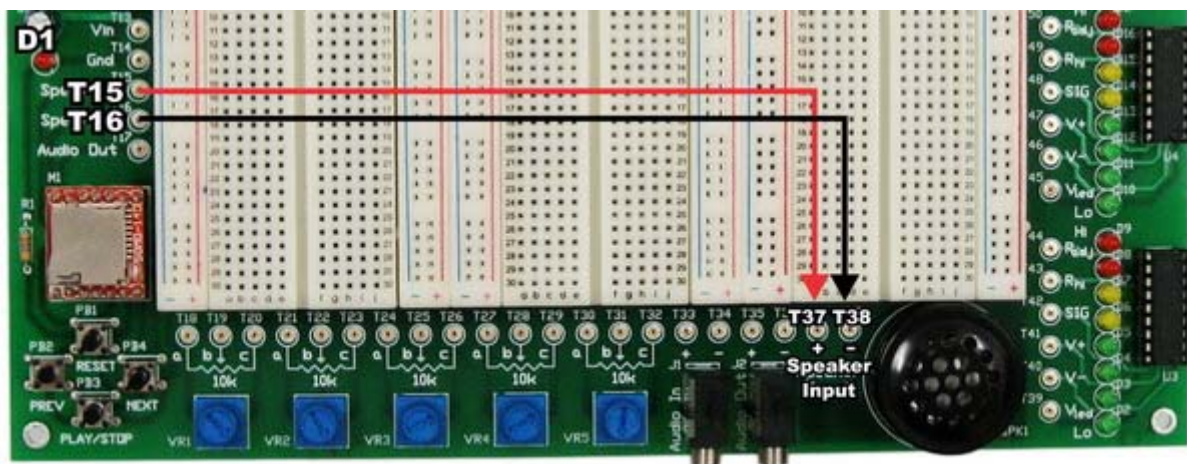

Figure 4 – Connections of T15 and T16 to the On-Board Speaker
7. Next, connect **T15 (Speaker+)** and **T16 (Speaker-)** to **T37** and **T38** respectively, as shown in Figure 4.
11. The red LED **D1**, as shown in Figure 4, will blink for a moment if +5 V is correctly supplied to the ME3100 Analog Circuit Design kit.